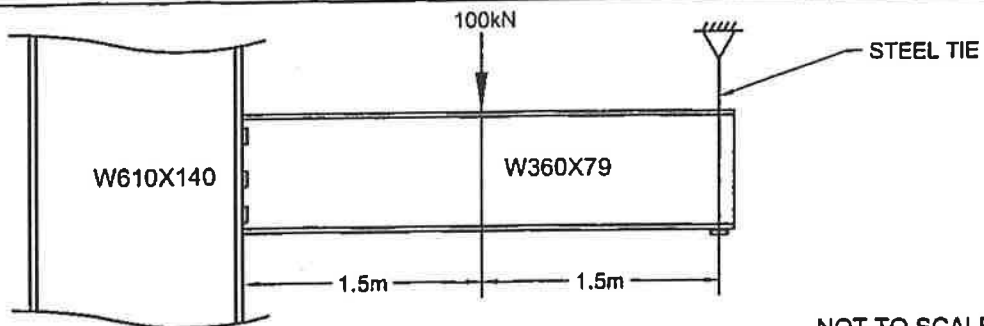

FIGURE A3
- A3. A steel stub beam W360 x 79 (G40.21 350W) is bolted to a heavy steel column, W610 x 140 (G40.21 350W) on one side, and supported by a steel tie on the other side, as shown in Figure A3. For the loads shown, design the steel beam to column connection and the steel tie.